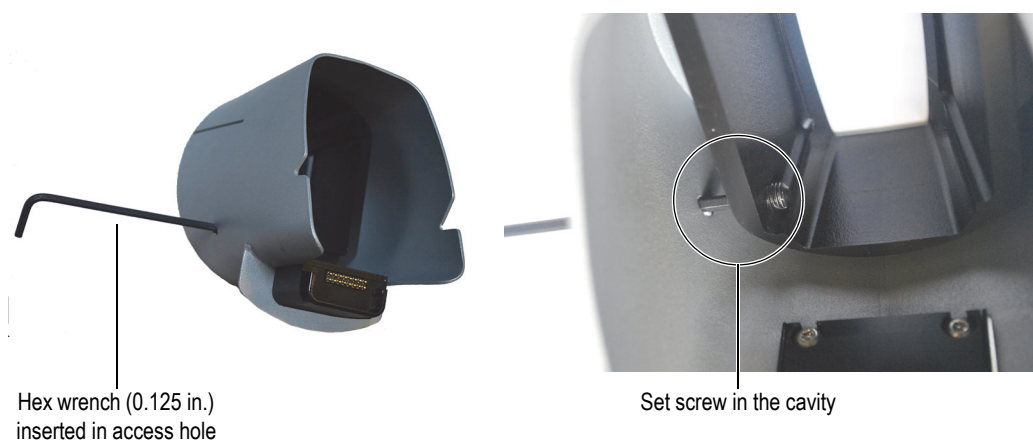

Figure E-2 Probe-shield set screw
Make sure that the set screw does not protrude into the cavity (see Figure E-2 on page 154), because it could scratch the nose of the analyzer.
- a) Insert a 0.125-in. hex wrench through the access hole (see Figure E-2 on page 154).